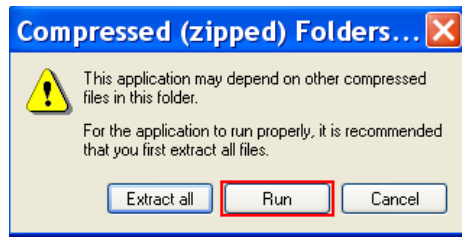

Figure 5.5 Extracting the .zip Files
6. A dialog box similar to the one shown in Figure 5.5 appears. Click **Run**.